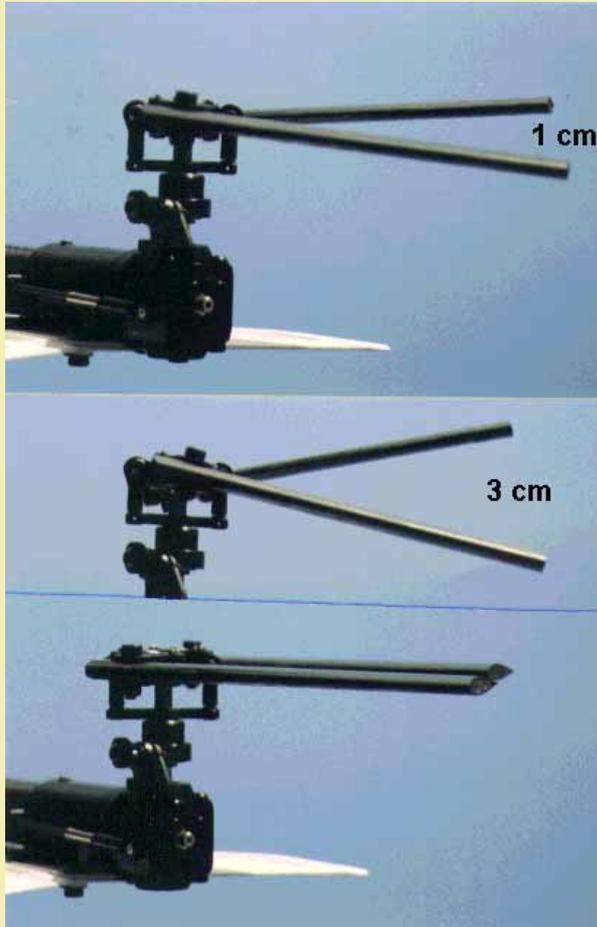

Fig. 7. Tail rotor mixing, blades folded together
Now adjust the tail rotor linkage (servo arm vertical) so that the tail blades are separated by about 1 cm when folded together (Fig. 7, next page). Check that the air thrust is blown against the tail fin, not opposite! This is just about the amount of torque compensation needed in the zero pitch condition to overcome the drag of the blades.
- Set the tail rotor mixing to a symmetrical V-shape using the available curves (on high-end transmitters) or mixers (on simpler transmitters). The separation of the folded tail rotor blade tips should go from about 1cm to 3cm from 0 to Max/min Pitch. Fig. 7. Make sure that the tail rotor blades move to the same side for positive and negative main rotor pitch!